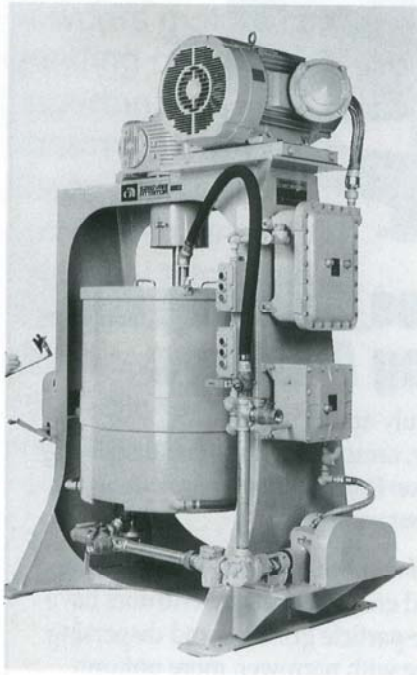

Figure 2. Batch attritor.
**Batch attritors.** Designed for wet batch grinding, dry batch grinding, or continuous dry grinding, the batch type attritors (Figure 2) are the most versatile types of process equipment.